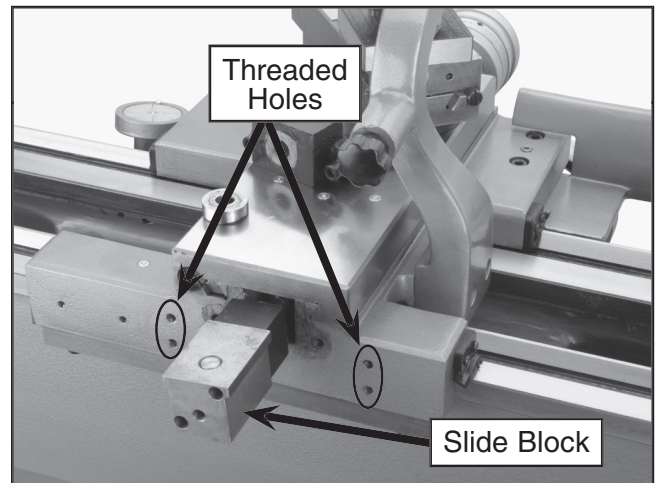

Figure 5. Slide Block Assembly.
13. Assemble the slide block to the end block using the two cap screws that were already in the slide block. The end block may need to be rotated to line up the holes (**Figure 5**).
14. There are four threaded holes (See **Figure 5**) on the rear of the carriage used to mount the main body to the lathe. Remove any paint or debris from these holes before attempting to mount the main body.